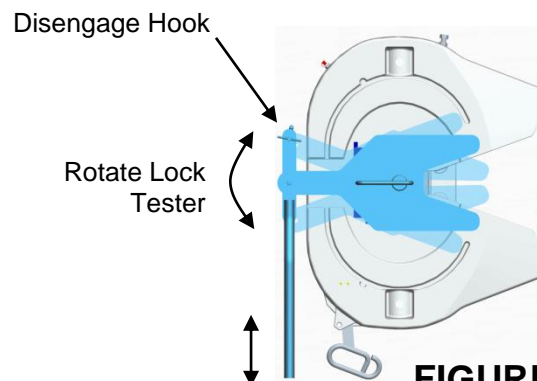

FIGURE 6
3. THE LOCK IS TOO TIGHT IF: The lock tester does not rotate freely when attempting to rotate it in the lock. (see figure 6)